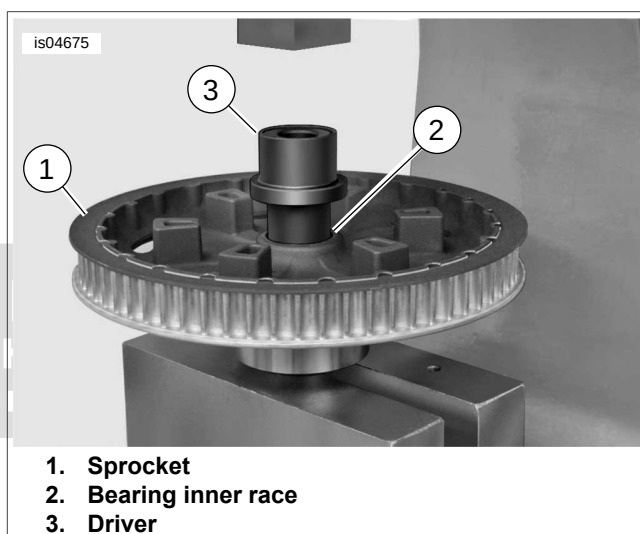

Figure 2-62. Remove Compensator Sprocket Bearing
7. See Figure 2-62. With the inboard side facing up, slide sprocket over sleeve until it rests on base. Slide small OD of DRIVER (Part No. HD-48921-3) over sleeve until contact is made with extended inner race of bearing.